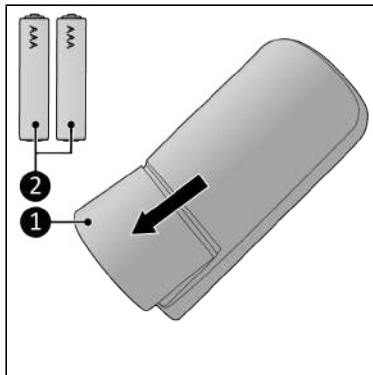

Figure 40.
1. Remove the battery cover (Figure 40, pos. 1).
2. Insert two batteries (AAA 1.5 V) (Figure 40, pos. 2) as indicated in the battery compartment. Make sure to insert the batteries correctly.